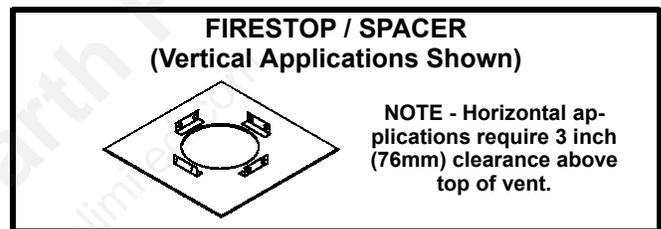

FIGURE 14
- 1 - Provide a firestop / spacer any time vent pipe must pass through a combustible floor, ceiling or wall. See figure 14. Refer to listing on page 22 for catalog numbers of Lennox firestop spacers.